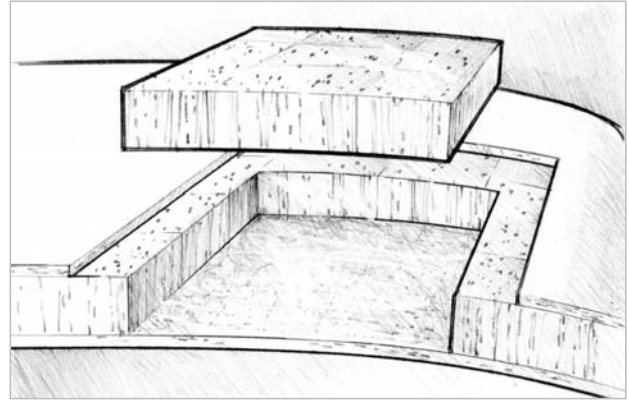

Figure 5-6 Fit a new piece of core material to match the shape, thickness and density of the damaged core material that was removed.
5. Prepare a new piece of core material to match the shape, thickness and density of the core that was removed. Dry fit the piece to be sure the new piece is no higher than the surrounding core (*Figure 5-6*). When replacing damaged core material, try to purchase the same material used by the builder. If that is impossible, locate a material as close as possible to the core's original thickness and density. It is better to have a slightly thinner core material than a thicker one. If the damaged area is smaller than about 2" × 2" (5cm × 5cm), the area may be filled with a thick epoxy/404 or 406 filler mixture.